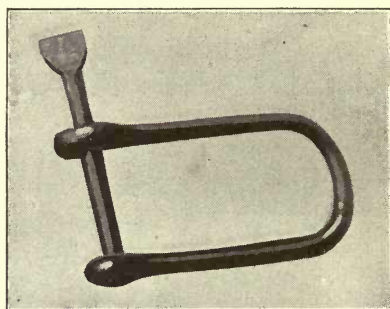

FIG. 45. LARGE WELDED CLEVIS.
6. Upset the end of the pin and shape the head as shown in the drawing of the pin. Shoulder in on the rounding edge of the anvil. In Fig. 45 is shown the welded clevis.